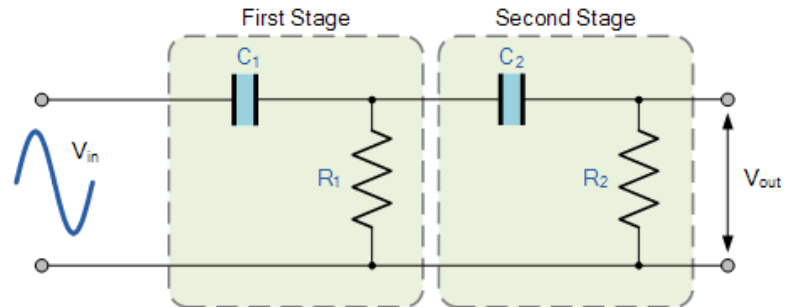

Figure 18: Two Stage High Pass Filter
In Figure 18, when the frequency is low (like bass in our audio example), the resistance/reactance of the cap is very high and acts like an open circuit. Thus, the signal is blocked. This is because the capacitor stays charged and therefore blocks current flow. Thus, we don't hear low tones like a bass guitar. As the signal gets reaches the cutoff frequency, the cap's reactance decreases and those higher notes can get passed through. At frequencies above cutoff, the capacitor appears like a low value resistor and the signal is passed through.
- Output of RC filter shown in yellow trace (Figure 18).
Notice I have redesigned the circuit by swapping the positions of the resistor and capacitor. Now, the input signal is connected to the capacitor. Since the reactance of the capacitor at low frequencies is very high, it filters out those low signals. In Figure 18, the input signal is 1000Hz. Here, the output is opposite to that of the low pass filter. Notice how the output signal (yellow) in the figure is extremely small